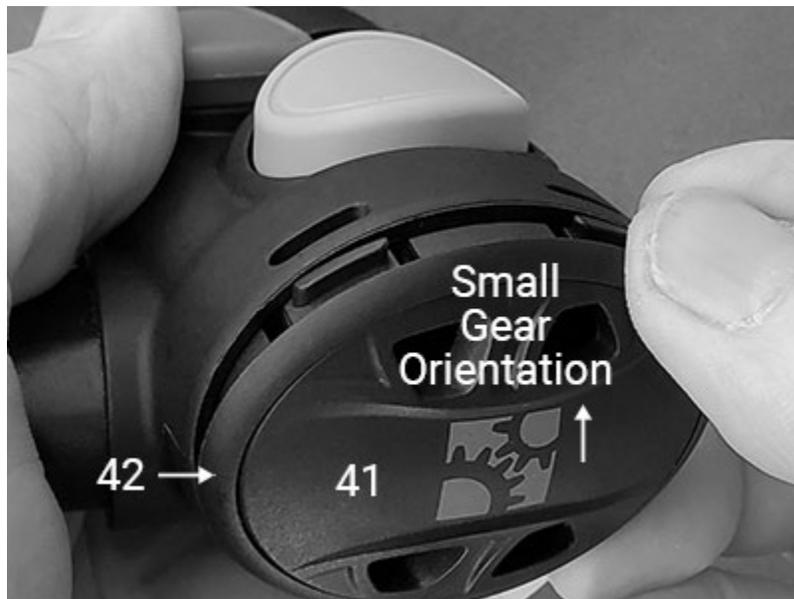

Fig. 53
6. **With the regulator pressurized**, install the Diaphragm (39) and Diaphragm Washer (40), wide flange down. If the valve leaks, readjust lever height.
7. Insert the Purge Cover (42) into the Retaining Ring (41). After checking the orientation of the DGX logo (small gear toward the buttons), press the Purge Cover assembly into the oval opening in the Main Body - Fig. 53, and carefully engage all four locking tabs.